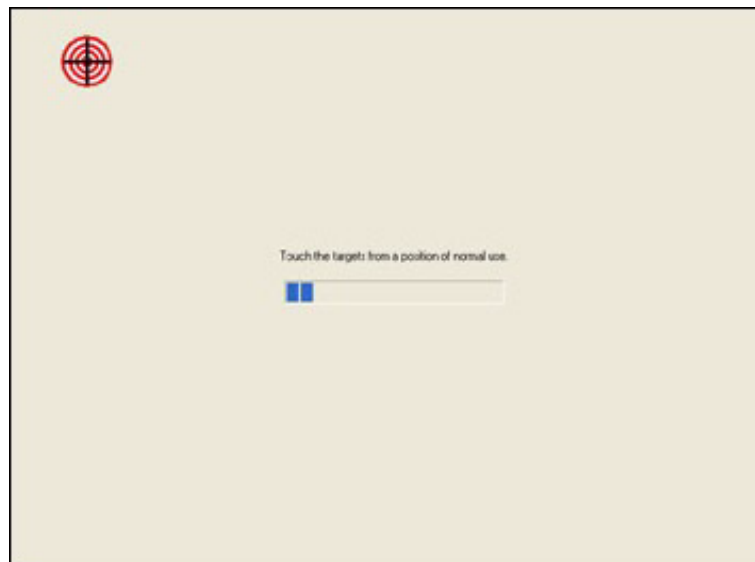

Figure 6.3 Calibrating the Targets
3. A white screen appears with a target in the top left corner of the screen. See Figure 6.3.